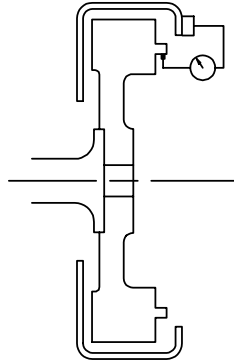
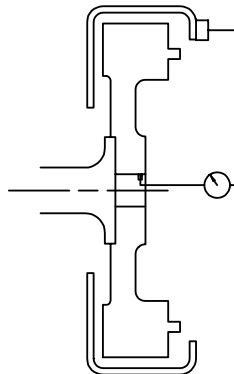

Figure 4. Checking Driving Ring Pilot Bore of Flywheel
Figure 5. Checking Pilot Bearing Bore of Flywheel
8. Readjust the indicator stem so it rides on the driving ring pilot bore of the flywheel. See Figure 4.
10. Adjust the indicator stem so that it rides on the pilot bearing bore cavity. See Figure 5.
Note: Eccentricity between the driving ring pilot bore (figure 4) and the pilot bearing bore (figure 5) must not exceed .20 mm. (.008").